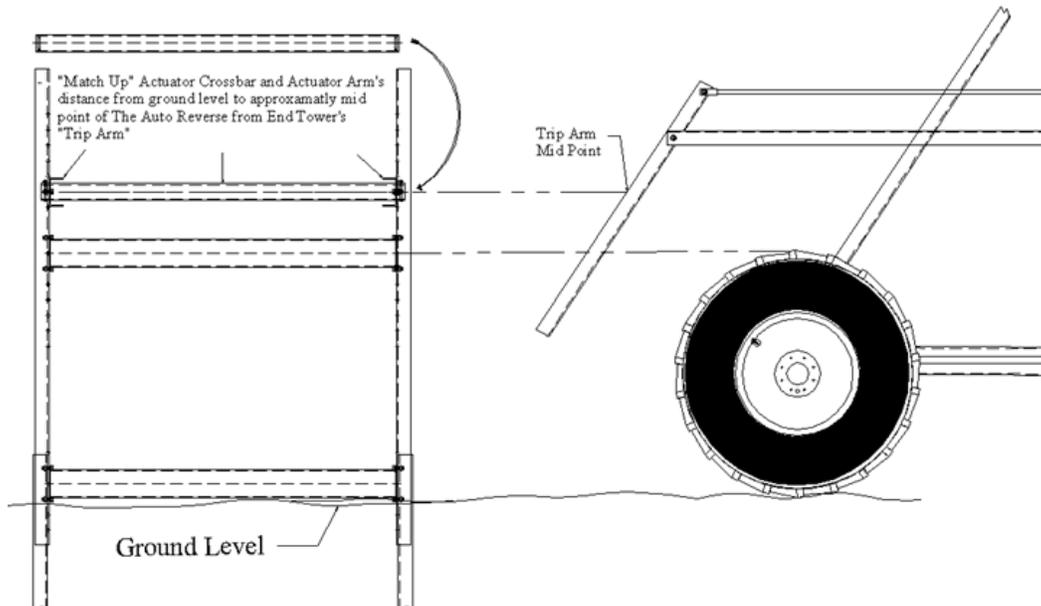

**Fig. 5**
4. Align one of the crossbar assemblies (C) to the bottom 3 sets of holes, of the legs (E) (Fig. 5). From the outside, of the leg extension, insert the 1 1/4" x 3/8" cap screws through the leg extension (D), leg (E) and crossbar (C). You will only be able to place one flat washer, with the lock nut, in these eight positions.